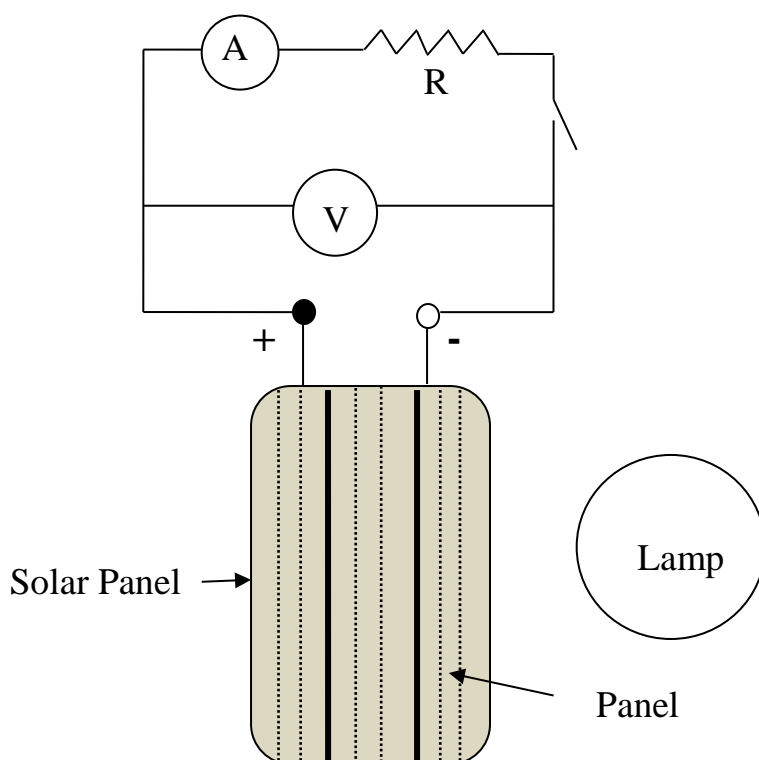

Fig 2. Circuit arrangement of PV solar panel
1. Arrange the circuit as shown in Figure 2 below. Connect a digital ammeter in series with the load and a voltmeter directly across the PV panel terminals. Use a load resistor of 0.5Ω or as provided